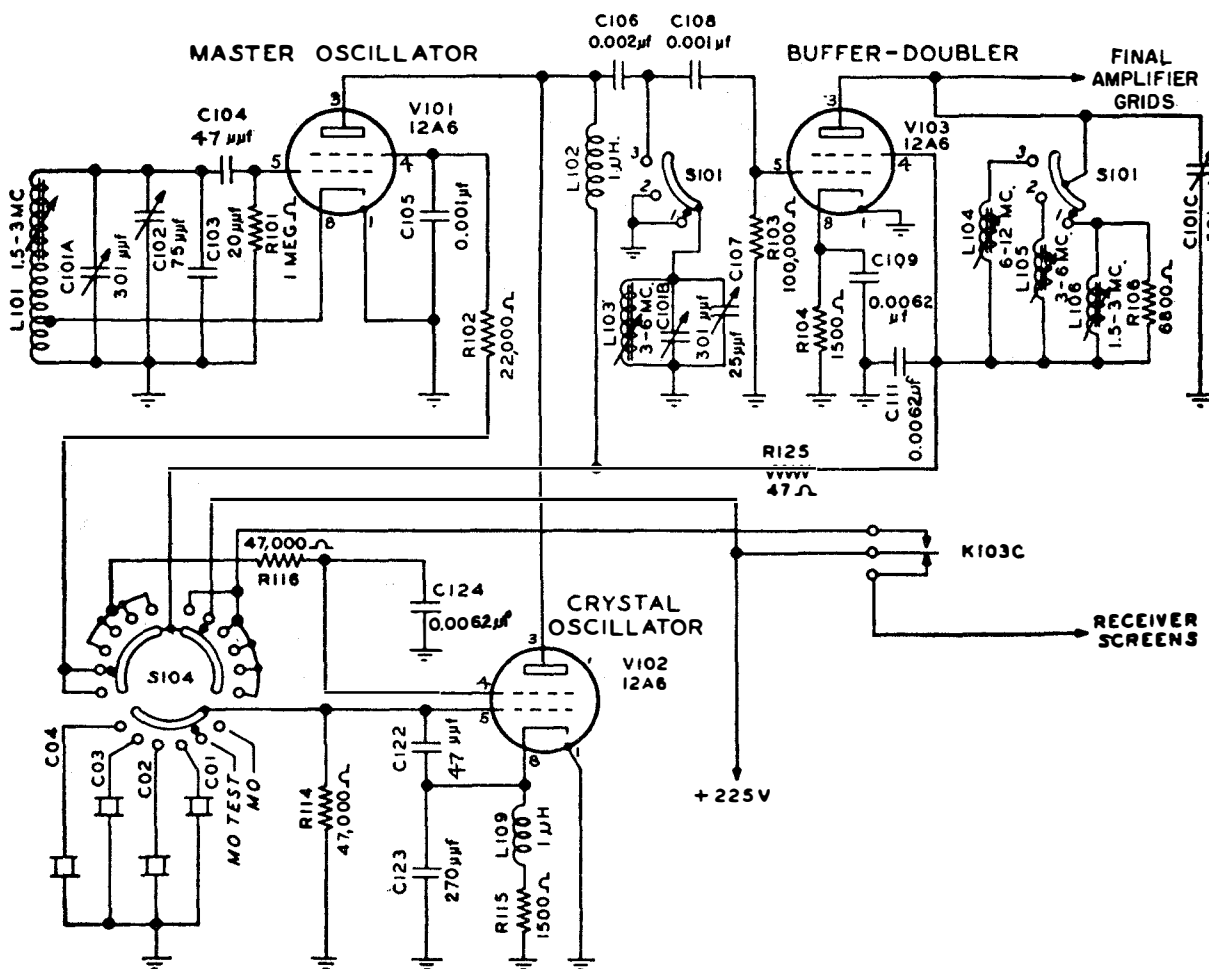

Figure 2-5 Transmitter R-F Exciter Circuit
a. OSCILLATOR. (See figures 2-5, 2-6, 2-7.)—The master-oscillator section employs a type 12A6 tube V101 in a Hartley circuit and is continuously tunable from 1.5 Mc to 3 Mc. By adjustment of the TUNING capacitor C101A, output may be obtained on any frequency within this band.
b. BUFFER AMPLIFIER. (See figure 2-5.)—Tube V103 is a type 12A6 that acts as a buffer amplifier, with or without frequency doubling. The grid circuit is capacitively coupled through C106 and C108 to the plate circuit of the oscillator. Combination grid-leak and cathode bias is employed. When operating in Band 1, V103 acts as a straight amplifier. In Bands 2 and 3, V103 acts as a buffer-doubler. The BAND SWITCH S101A selects the proper inductor, and the plate circuit is tuned to the